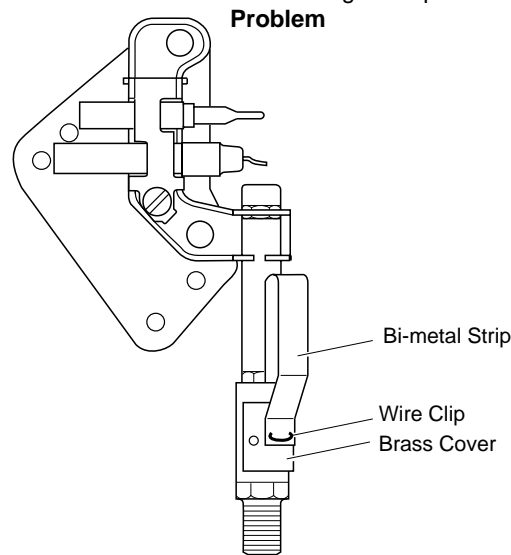

Figure 14. Ignitor/Pilot Assembly
3. Check the pilot assembly for dirt, cobwebs or other restrictions. Be sure the heater has been turned off. First remove the wire clip from the bi-metal strip located on the pilot tube (see Figure 14). Remove the brass cover and clean any dust or cobwebs from the air/gas mixing chamber. Reassemble the brass cover with the wire clip and retest to see if a correct pilot flame is established. If the above procedure does not give satisfactory results, disconnect the pilot assembly and remove it from the heater. Blow out the pilot tube from both directions to remove any restrictions. Also inspect the pilot line tubing for dirt, kinks in the line or other restrictions. Replace the pilot assembly if necessary.